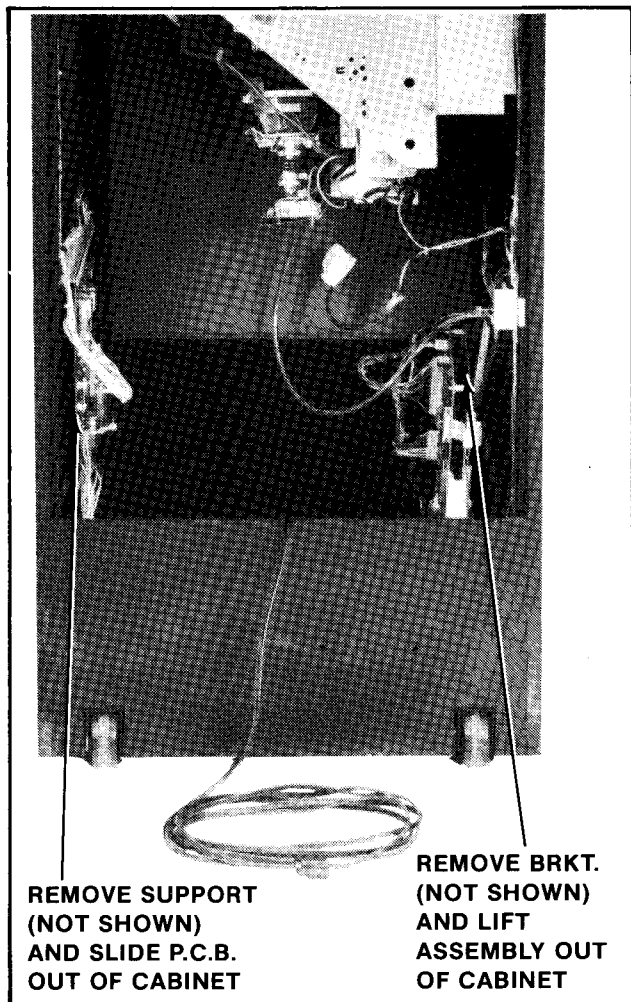

Figure 4-12 Replacing P.C.B.s — Upright
1. UPRIGHT MODEL: See Figure 4-12.
- Disconnect the power supply board from all its cabling, remove the P.C.B. supports indicated in Figure 4-12, and slide it out the back of the cabinet.